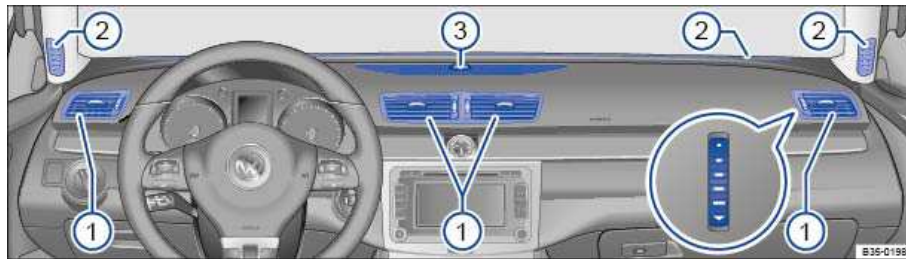

Fig. 154 In the instrument panel: Air vents.
To help ensure sufficient heating, cooling and ventilation in the passenger compartment, never close the air vents completely ⇒ fig. 154 (1).